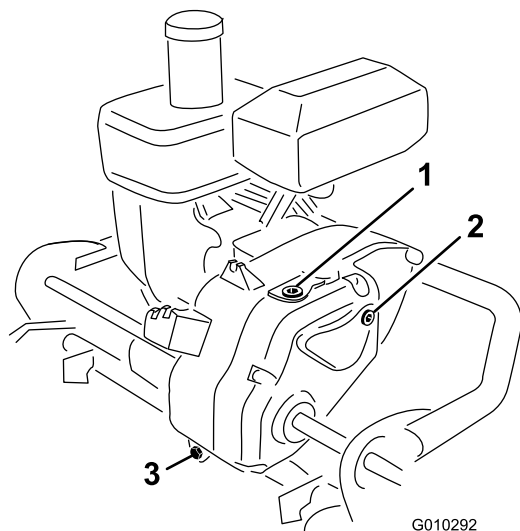

Figure 3
- B. Remove the check plug from the right-hand side of the transmission (Figure 3).
- 2. Remove the check plug from the right-hand side of the transmission (Figure 3). The oil level should come to the bottom of the hole. If it does not, remove the fill plug, from the top of the transmission, and add enough of the proper oil type until the level reaches the bottom of the check hole.
2. Remove the drain plug from the rear of the transmission (Figure 3).
3. Push down on the handle and tip the machine back. Remove the fill and check plugs from the transmission (Figure 3).